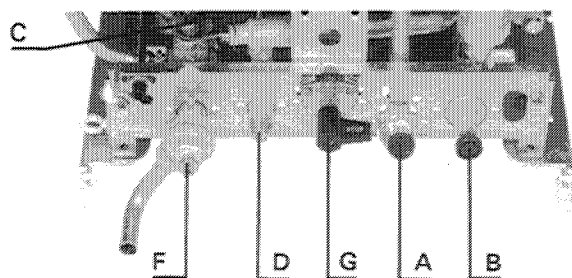

Fig. 33
- 2) Open mains cold water inlet valve (fig. 33) (A).
- 6) Set D.H.W. flow rate as required by adjusting screw (D) increase (anticlockwise) decrease (clockwise), see section 6.7.